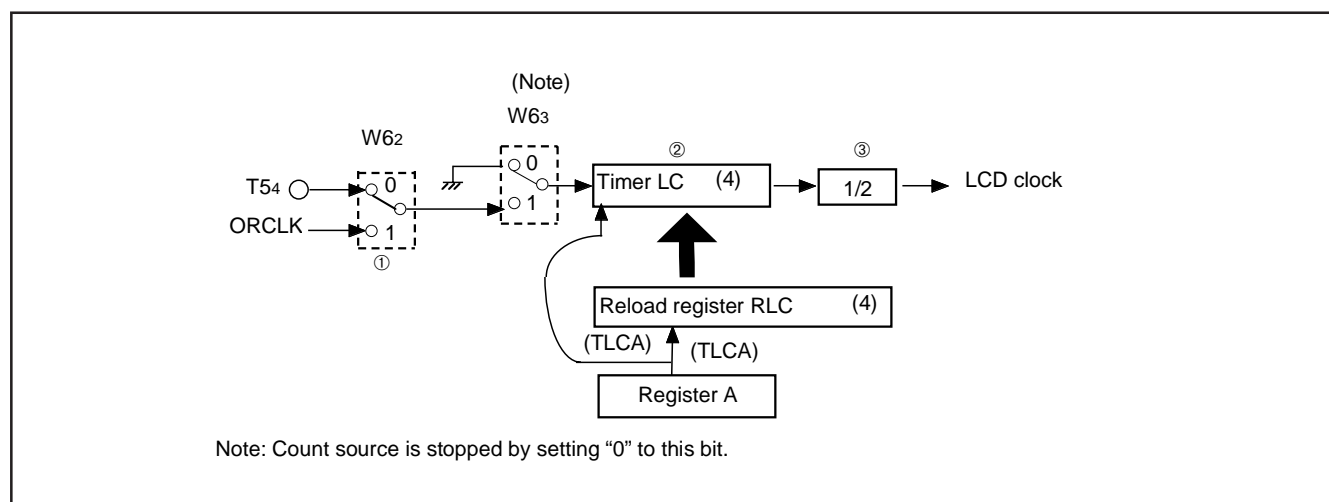

Fig. 33 LCD clock control circuit structure
(2) LCD clock control
The LCD clock is determined by the timer LC count source selection bit (W62), timer LC control bit (W63), and timer LC. Accordingly, the frequency (F) of the LCD clock is obtained by the following formula. Numbers (① to ③) shown below the formula correspond to numbers in Figure 33, respectively.